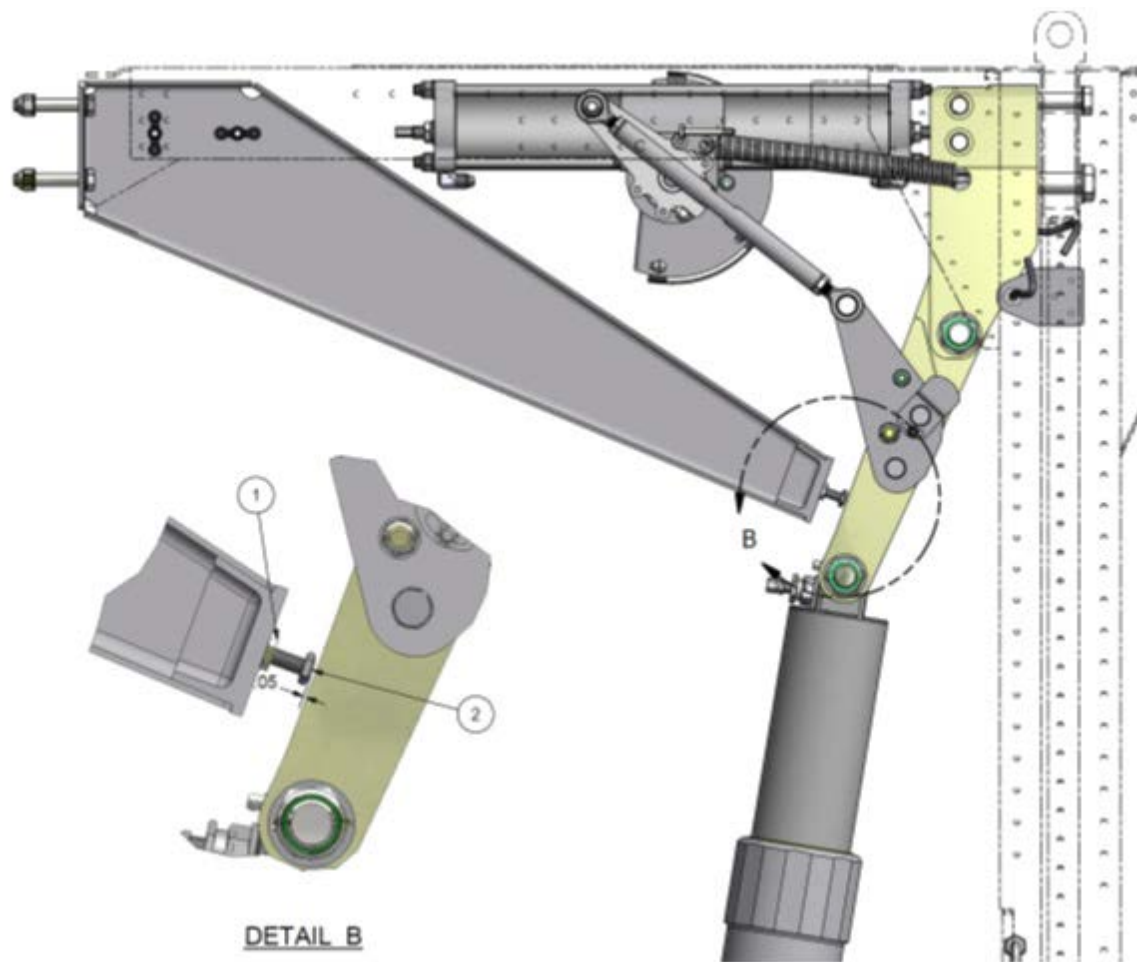

FIGURE 4-6: MAIN GEAR DOWN STOP ADJ.
30. Loosen the (Fig 4-6, Item 1) jam nut on the Main Gear Down Stop Assembly, and screw in the NAS-428 adjustment bolt (Fig 4-6, Item 2). Verify the bolt does not touch the Top Arm when gear is in the down position. When the aircraft is off the jack stands and the weight of the aircraft fully on the wheels, adjust the NAS-428 bolt to lightly make contact with the Main Gear Top Arm when the gear is in the full down position, then turn the bolt one and a half turns in so that the bolt no longer makes contact with the Top Arm. Gap should be about 0.050 inches. Tighten the jam nut.